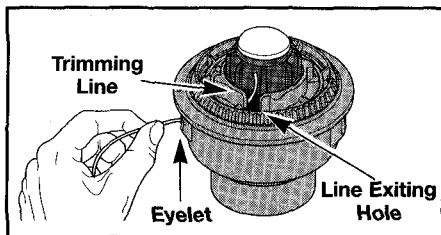

Fig. 19
NOTE: Before installing new trimming line onto the existing inner reel, remove any old line from the SpeedSpool by pulling the line out of the line exiting or locking holes (see Figs. 19 and 20 for location of holes).
2. Insert **10 feet (2.5 m)** of trimming line straight into one of the two eyelets and push it up through the **line exiting hole** in the inner reel (Fig. 19). Do not bend the line when inserting it into the eyelet.